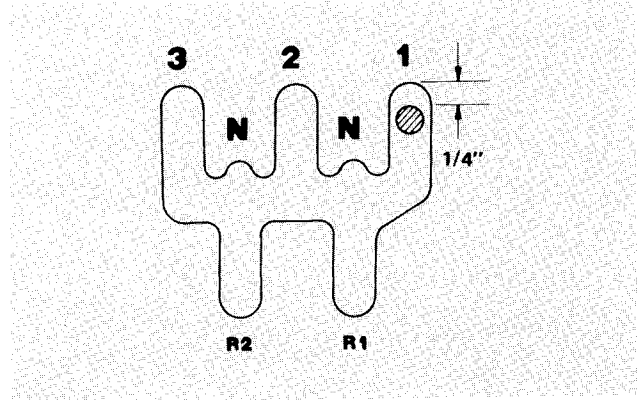

Figure 26
1. Move wheel drive control lever into No. 1, 1st gear (Fig. 26).
2. Inspect location of control lever in slot. Control lever must be 1/4 inch from front of slot (Fig. 26).